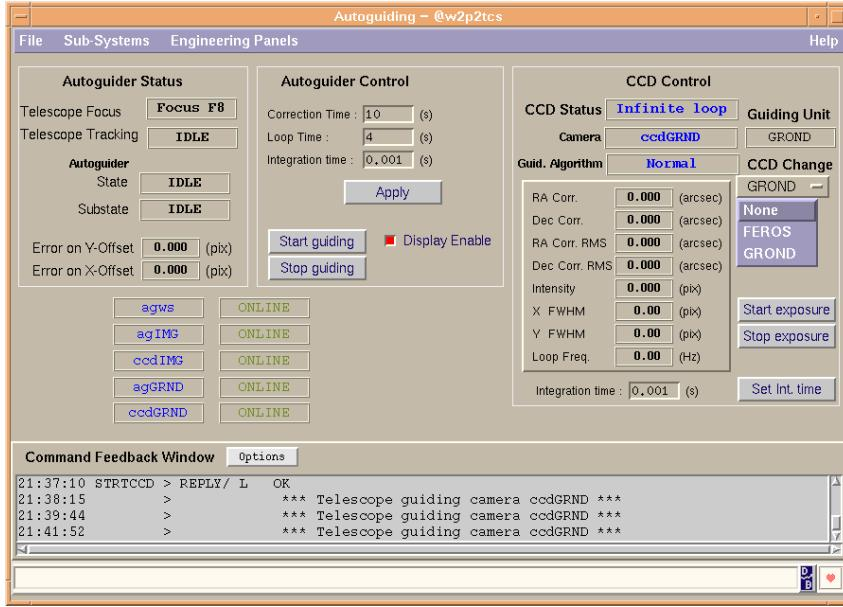

Figure 2.5: Switching between **GROND** and **FEROS** guide camera.
- b. Select GROND below CCD change (see Fig. 2.5, p. 32)
- b. Select FEROS below CCD change (see Fig. 2.5, p. 32)
Check that the **GROND** and **FEROS** guide cameras work by switching between them on the **AG** window (see Fig. 2.5, p. 32). The switching should set the camera in CCD status Infinite loop. It may be necessary to click on Start exposure after switching to obtain this status. If status is Fail, the camera must be restarted (see Sect. 10.3, p. 78).